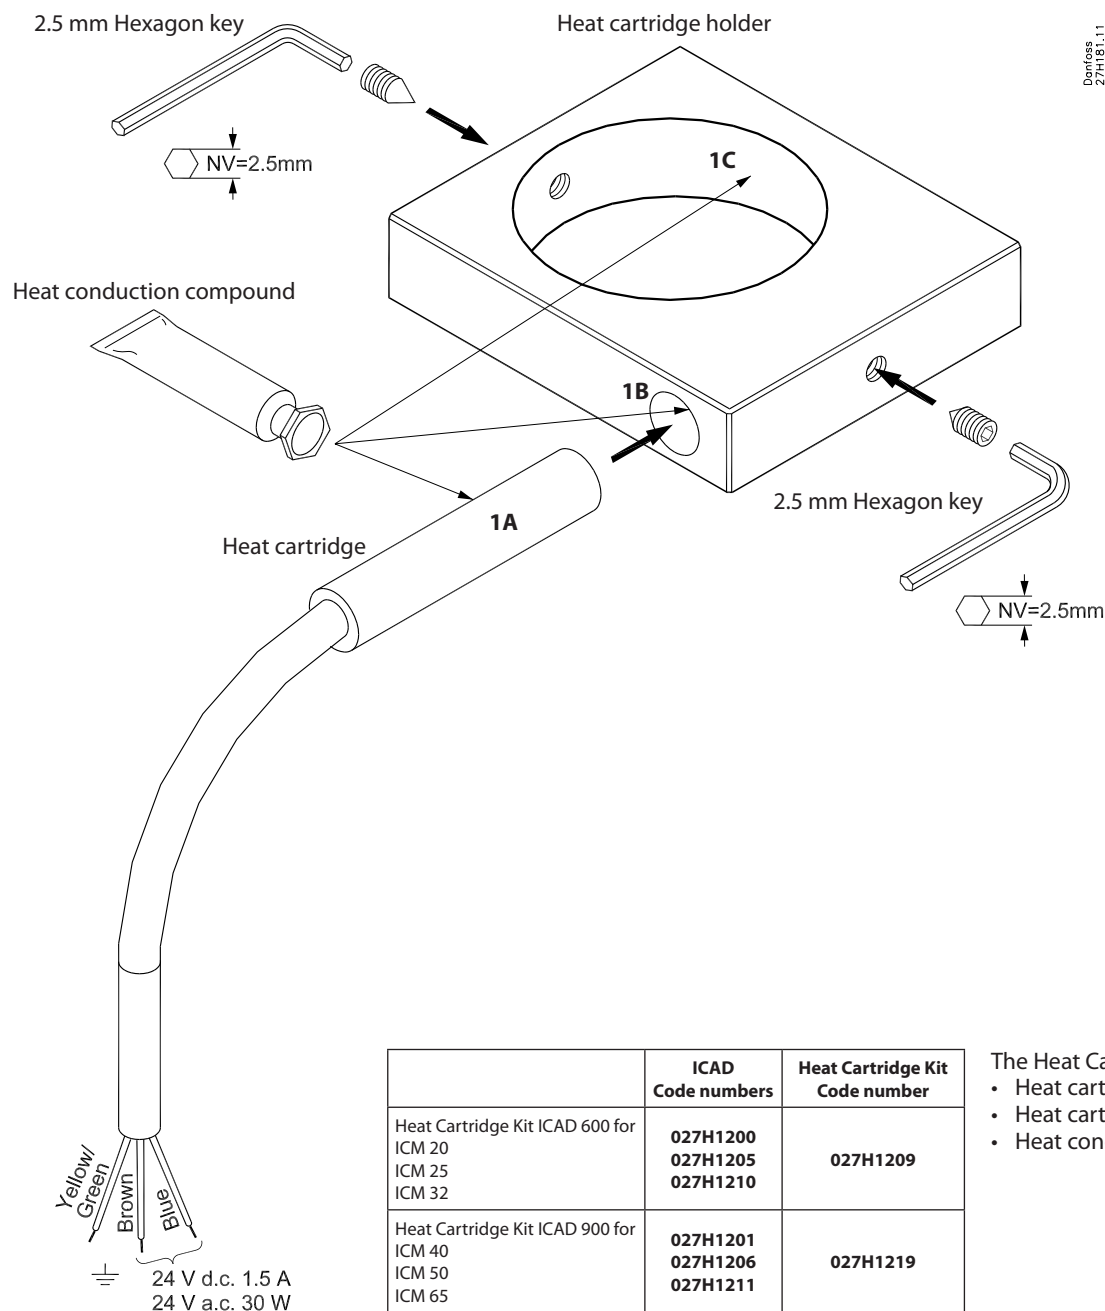

Fig.1
- Check that the two socket set screws on the heat cartridge holder are counter clockwise fully unscrewed with a 2.5 mm Hexagon key (see fig. 1).
- the heat cartridge (marked 1A in fig. 1)
- into both ends of the holes for heat cartridge, on the heat cartridge holder (marked 1B in fig. 1)
- on the inner surface of the heat cartridge holder (marked 1C in fig. 1)
- Insert the heat cartridge into the smallest hole of the heat cartridge holder (see fig. 1).